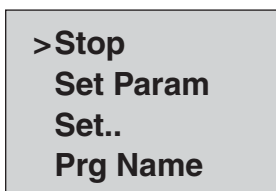

Fig. 2
2. Press the ESC key located next to the display window and under the arrow key pad (see figure 2). Pressing the ESC key will access the Parameter Assignment Menu.